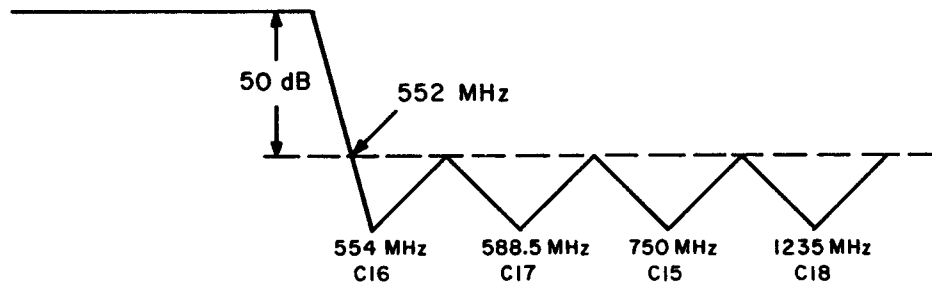

Figure 4-7. Low-pass Filter Notch Adjustments
- 2) Adjust C15, C16, C17 and C18 to produce the response illustrated in **Figure 4-7**. Note the frequency and the component adjustment for each point. The Pre-Amp LPF filter response should be flat from 20-500 MHz and have 12-14 dB of gain.